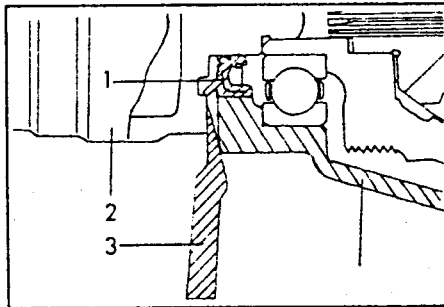

Fig. 9.2. — Removal of a drive shaft from the transmission. Take care not to damage the oil seal (1) by inserting the lever too far into the gap.
- Insert the wheel nut wrench supplied with the vehicle or a similar lever between the transmission and the case of the inner CV. joint as shown in Fig. 9.2 (not more than 7 mm/0.28 in.) and with a short push against the lever, towards the transmission, disengage the drive shaft. Do not pull the hub assembly outwards to prevent possible deformation of the circlip in the joint. Take extra care with this type of drive shaft joint (easily damaged).